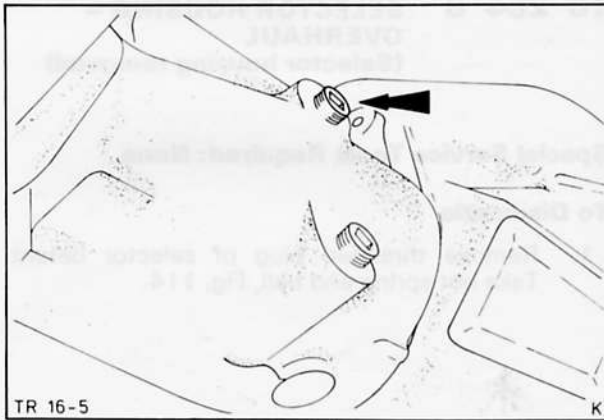

Fig. 112. Check oil level
8. Check oil level in gearbox and top up with specified oil if necessary, Fig. 112.